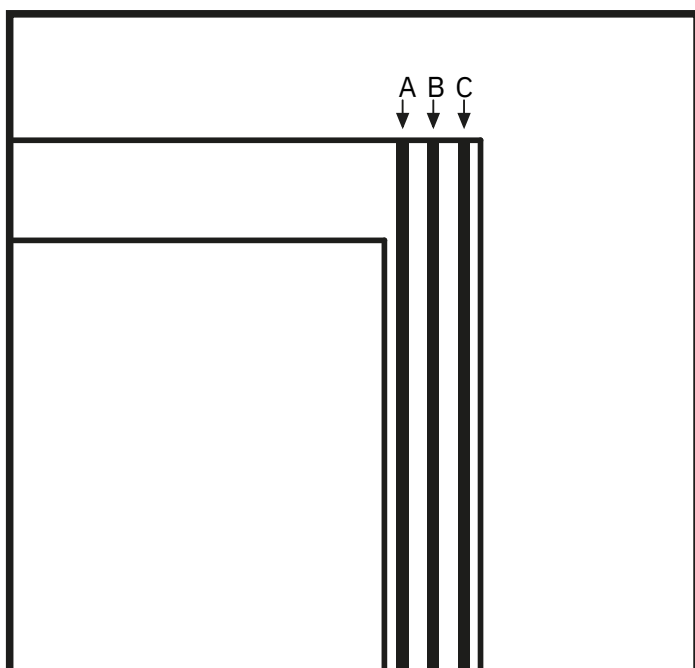

Figure 1: Top view
1. Choose a suitable place for the glass on the edge of the bathtub. (Fig 1)